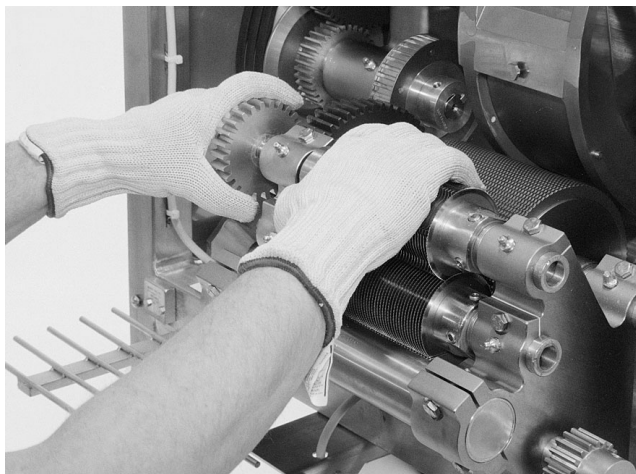

Figure 28 — Removing feed spindle
4. **Remove feed spindle.** Loosen set screws in feed spindle and while holding feed spindle firmly, remove shaft (Figure 28). Rotation of gears may be necessary to align teeth as required for shaft removal. Lift spindle from machine and set aside on a surface that will not damage the knives, bracing it to prevent it from rolling.